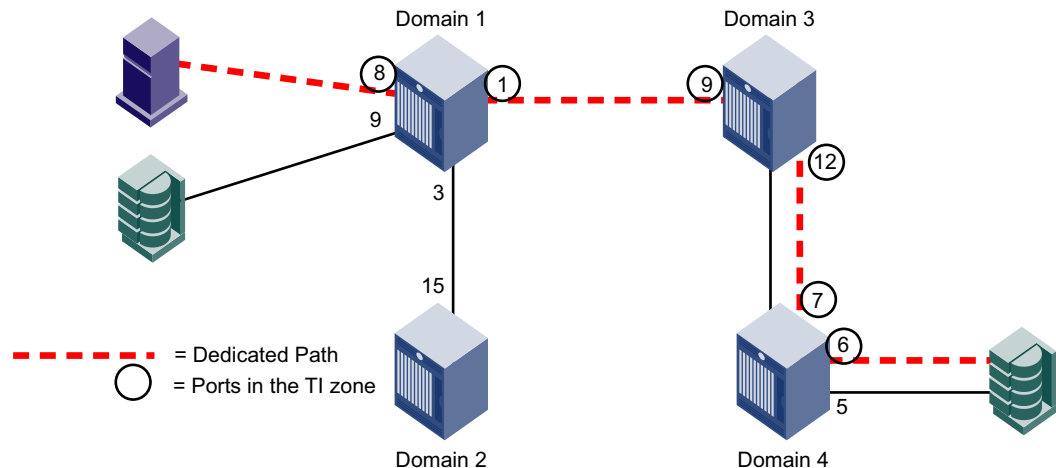

FIGURE 35 Fabric incorrectly configured for TI zone with failover disabled
For example, in Figure 35, if failover is disabled, Domain 2 can continue to send domain controller frames to Domain 3 and 4, even though the path between Domain 1 and Domain 3 is a dedicated path. Domain controller frames include zone updates and Name Server queries.
- For the Brocade 4100, 4900, 7500, 7500E, 7600, and 48000: Non-TI zone traffic, including domain controller frames, are excluded from using the dedicated path. For example, in Figure 35, if failover is disabled, Domain 2 cannot send domain controller frames to Domain 3 and 4. Domain controller frames include zone updates and Name Server queries. To avoid this problem, add a second, non-dedicated ISL between Domain 1 and 3.
- Disabling failover does not affect local connectivity. For example, in Figure 35, the initiator and target on Domain 1 are not in the same TI zone. If failover is disabled, the initiator and target on Domain 1 maintain connectivity, as long as they are in the same regular zone.